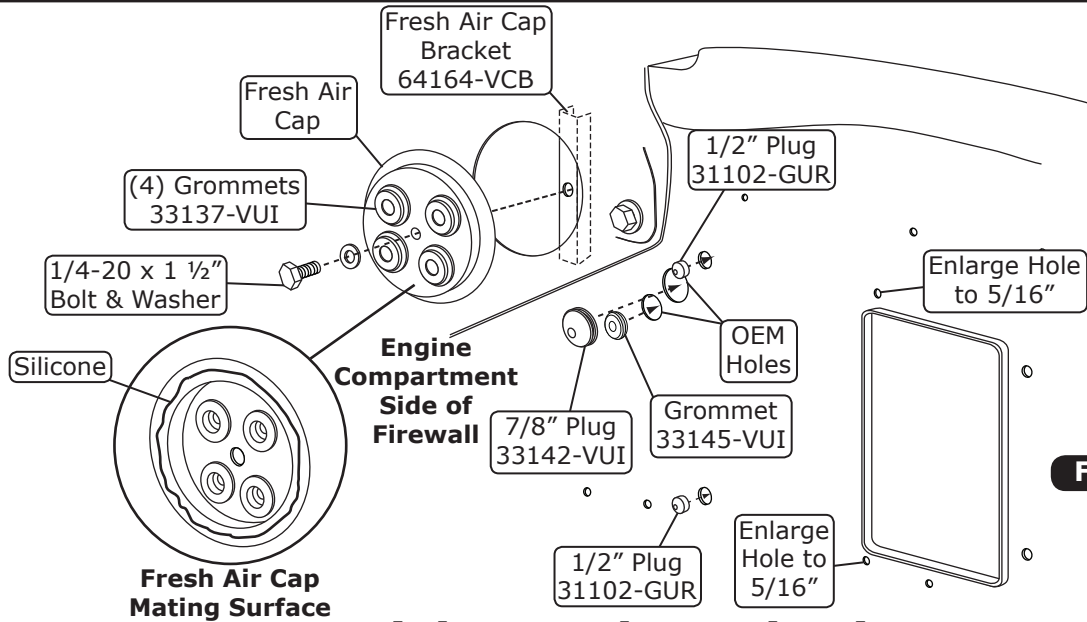

Figure 6
1. Install (4) grommets into the fresh air cap (See Figure 6, below).
2. Apply a 1/4" bead of silicone around the mating surface of the fresh air cap as shown in Figure 6, below.
3. Attach the fresh air cap to the firewall using the fresh air cap bracket, a 1/4-20 x 1 1/2" bolt, and a washer (See Figure 6, below). **NOTE: The fresh air cap installs on the engine side of the firewall.**
4. Install a 7/8" plug and a 3/8" grommet into the firewall (See Figure 6, below).
5. Install (2) 1/2" plugs into the firewall as shown in Figure 6, below.
6. Enlarge (2) OEM holes to 5/16" as shown in Figure 6, below.